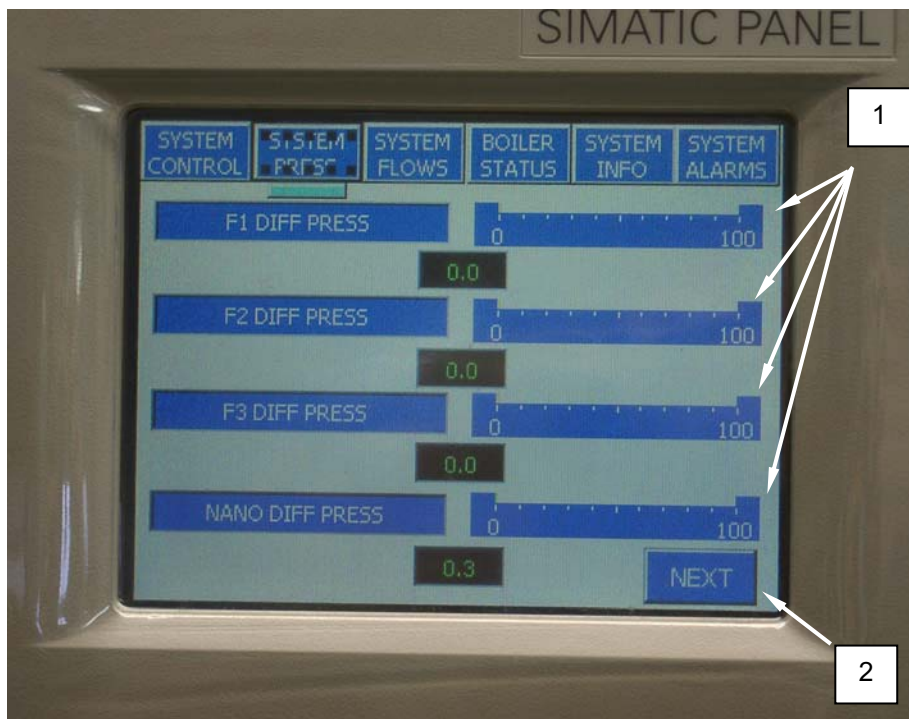
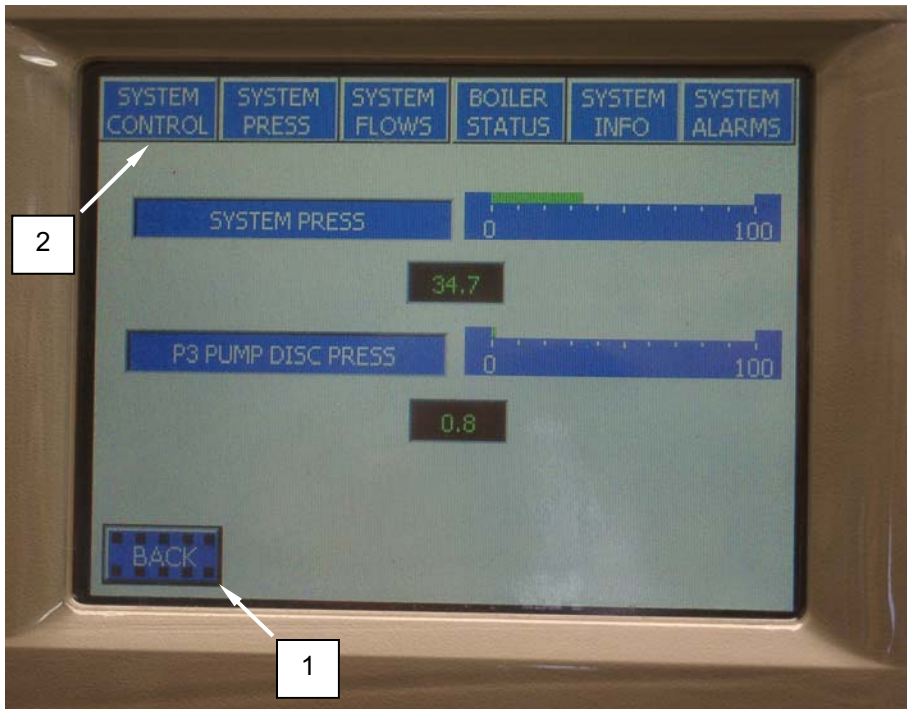

Figure 14. System Press Display.
Figure 15. Additional System Press Display.
The PLC will show the display in Figure 14. The bar graphs (**Figure 14, Item 1**) indicate the status of the pressure differentials across the system filters. The differential pressure is the difference between the outlet pressure and the inlet pressure. The PLC displays the differential pressure across the F-1 (bag filter), F-2 filter, F-3 filter, and nanofilters. The bar graph will indicate green when the filter is operating in a normal range. The bar graph will indicate RED when the pressure is HIGH. The PLC will activate an alarm at a preset value for each filter when the pressure is above normal operating limits. See alarm section for further details.
2. Press the NEXT button (**Figure 14, Item 2**) to access additional system pressures for the system and the P-3 pump. Press BACK button (**Figure 15, Item 1**) to return to the previous display, or System Control (**Figure 15, Item 2**) to return to the System Control menu.